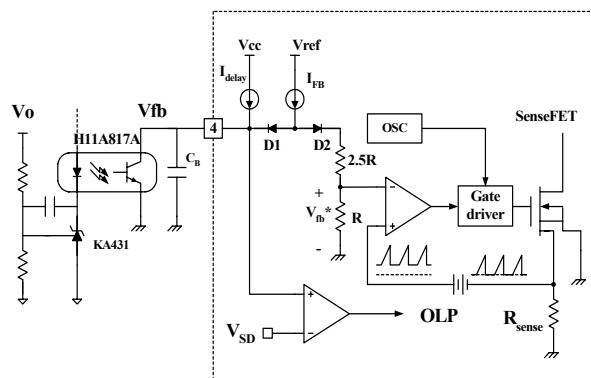

Figure 5. Pulse width modulation (PWM) circuit
2. Feedback Control : FSDM0565RB employs current mode control, as shown in Figure 5. An opto-coupler (such as the H11A817A) and shunt regulator (such as the KA431) are typically used to implement the feedback network. Comparing the feedback voltage with the voltage across the R_{sense} resistor plus an offset voltage makes it possible to control the switching duty cycle. When the reference pin voltage of the KA431 exceeds the internal reference voltage of 2.5V, the H11A817A LED current increases, thus pulling down the feedback voltage and reducing the duty cycle. This event typically happens when the input voltage is increased or the output load is decreased.
2.1 Pulse-by-pulse current limit: Because current mode control is employed, the peak current through the Sense FET is limited by the inverting input of PWM comparator (V_{fb}^*) as shown in Figure 5. Assuming that the 0.9mA current source flows only through the internal resistor ($2.5R + R = 2.8 k\Omega$), the cathode voltage of diode D2 is about 2.5V. Since D1 is blocked when the feedback voltage (V_{fb}) exceeds 2.5V, the maximum voltage of the cathode of D2 is clamped at this voltage, thus clamping V_{fb}^* . Therefore, the peak value of the current through the Sense FET is limited.